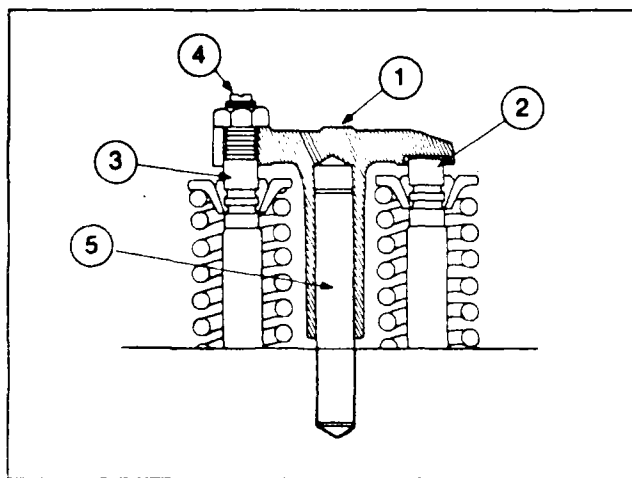

Fig. 2-50. (N21461). Valve crosshead
1. Loosen the valve crosshead adjusting screw locknut and back off the screw (4, Fig. 2-50) one turn.